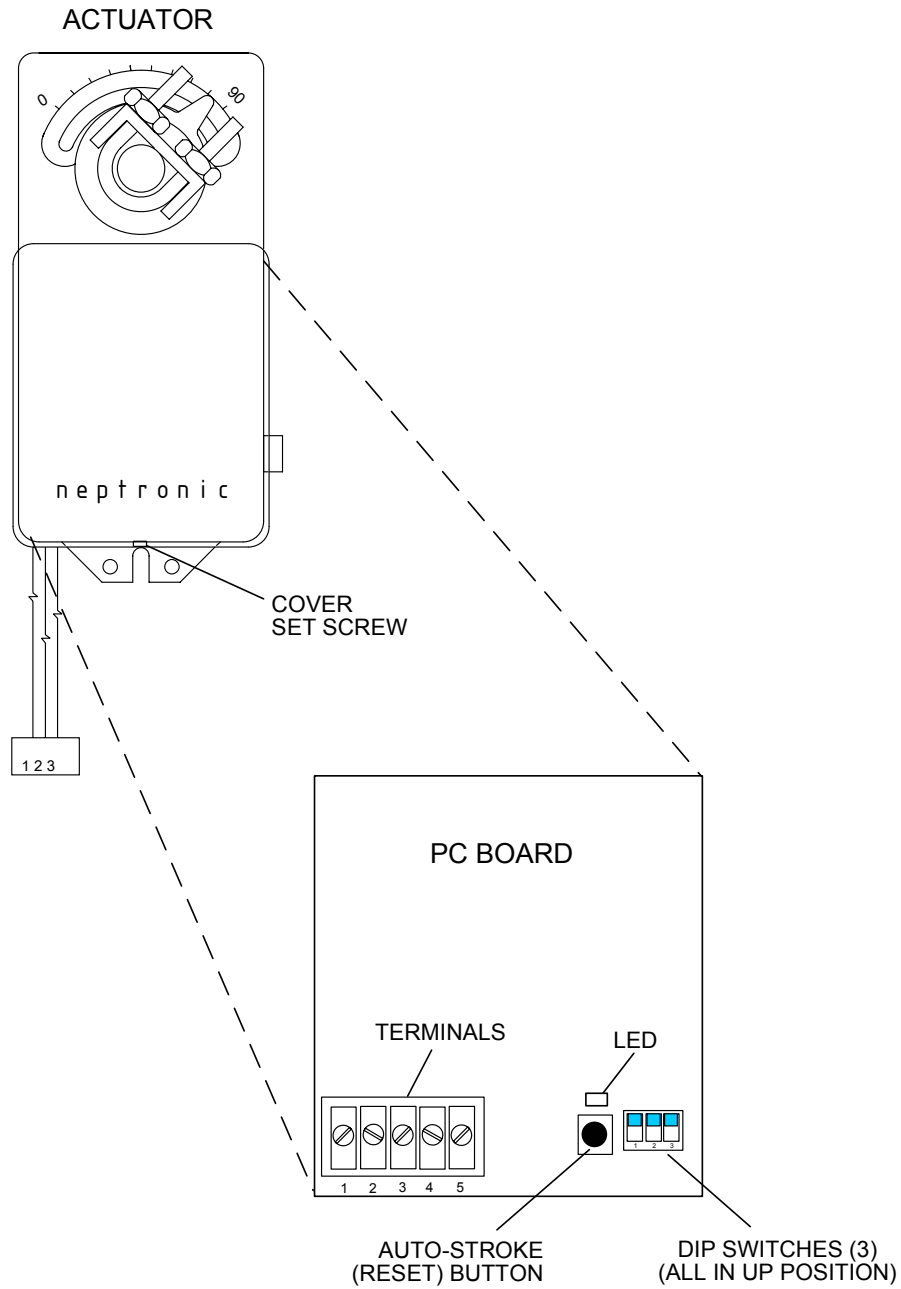

Figure 3-1. Actuator Adjustment
1. Refer to Figure 3-1 and loosen the Actuator cover set screw.
2. Remove the Actuator cover to access the PC Board containing the terminal connections, DIP switches, Auto-Stroke (Reset) button and LED shown in Figure 3-1.